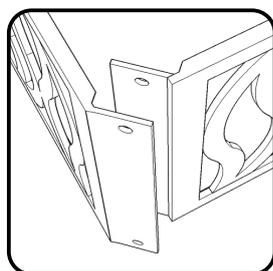

Figure 1
Attach Legs (B) to Stretchers (C) and (D) with Flat Washers, Spring Washers and Nuts, tightening Nuts only halfway. (See Figures 1 and 2)